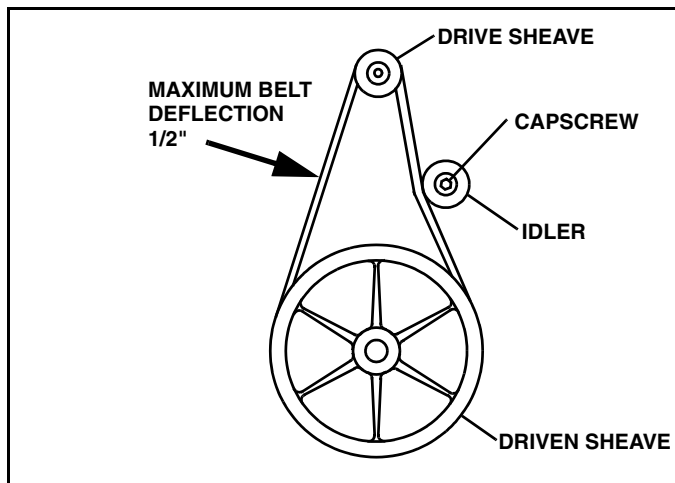

Figure 3-10
4. Loosen cap screw/nut retaining belt tensioner to crossbrace. (See Figure 3-10)
5. Adjust idler until belt opposite idler has 1/2 inch deflection. (See Figure 3-10)